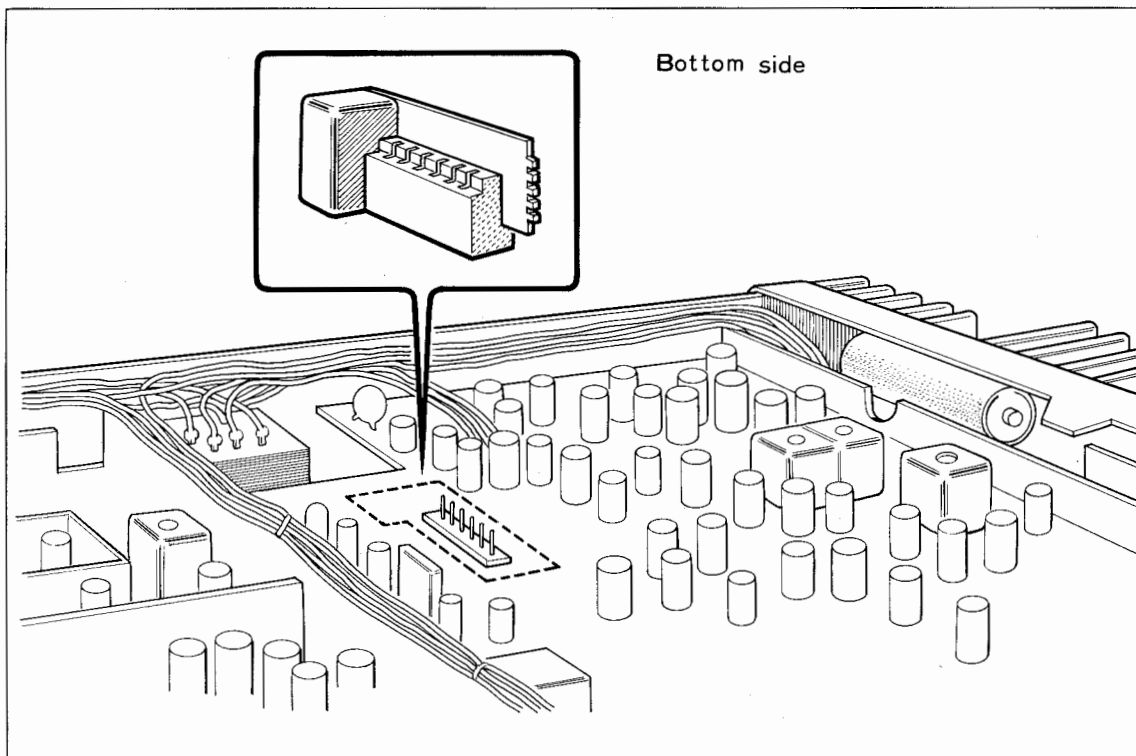

Fig. 8 How to Install the Tone Unit
Figure 8 shows installation of the PC board in the RX unit (X55-1150-10).
**SUB:** Sets your transceiver to the carrier-type squelch mode of reception as with the OFF position. In the transmit mode of operation, a subaudible tone is superimposed on your RF output signal. The tone frequency is determined by the tone squelch active filter installed in the RX unit (X55-1150-10). See Fig. 8.